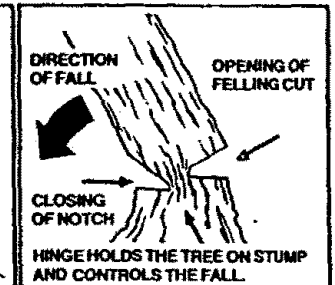

Figure 31
- c. Leave enough uncut wood between the felling cut and the notch to form a hinge. Figure 31.